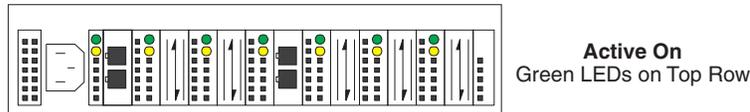

Figure 5. Type 3523 fibre channel hub active LEDs
3. Check the Device Active (green) LEDs on the fibre channel hub ports. See Figure 5 on page 7.